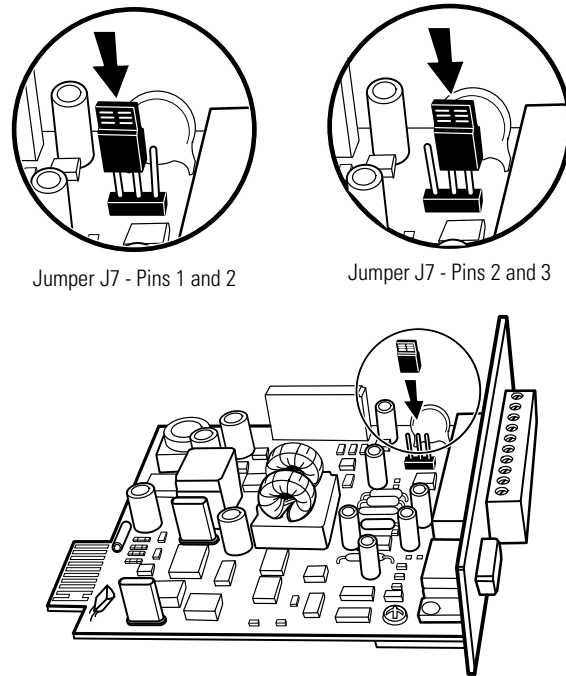

Figure 15. Setting the CAN Bridge Card Jumper J7 (Side View)
4. Set the jumper pins on the Powerware Hot Sync® CAN Bridge Card according to the parallel configuration (see Figure 15):